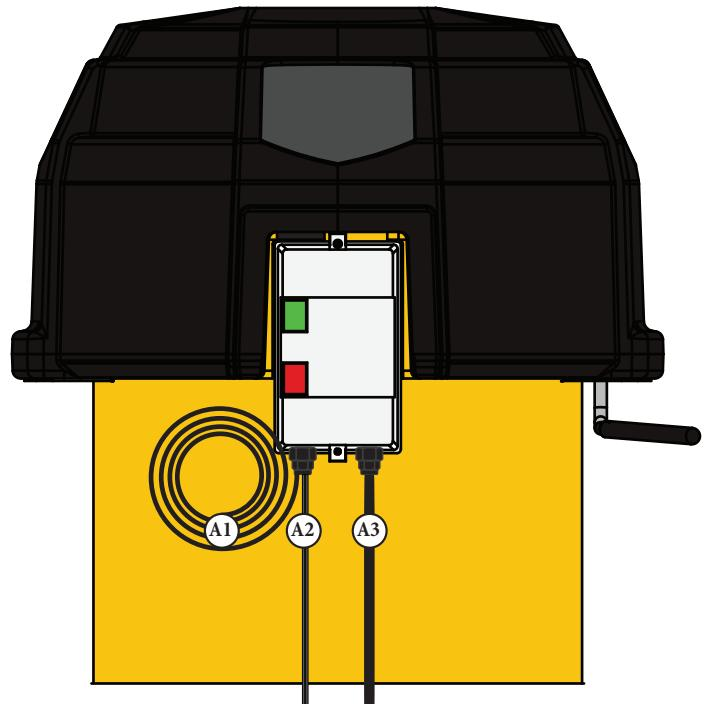

FIG. 32
- 32** Uncoil and hang the Antenna Extension Wire (A1) either on the ceiling or high up on the wall [FIG. 32].
- 33** The Remote (G25) sends long range wireless signals via radio frequency that work at long distances. The Antenna Extension Wire (A1) further extends the distance for the remote [FIG. 32 & 33a].
The Dust Sentry (A2, I) uses infrared technology to automatically detect when the dust bin is full [FIG. 32 & 33b].
The Power Cord (A3) powers the system on and off [FIG. 32 & 33c].